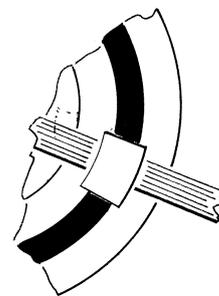

Figure 5.12
*Motor cable. See its position in the air filter on Figure 5.12*